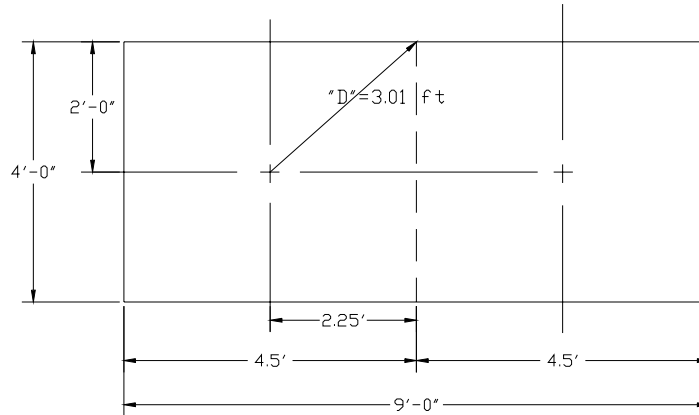

FIG 4-3
Example: Determine if a 2-nozzle unit meets the nozzle area coverage limits to protect a 4 Ft wide x 9 Ft long x 8 Ft high enclosure shown in Fig 4-3.
- Calculate radial distance "D" as shown in FIG 4-3